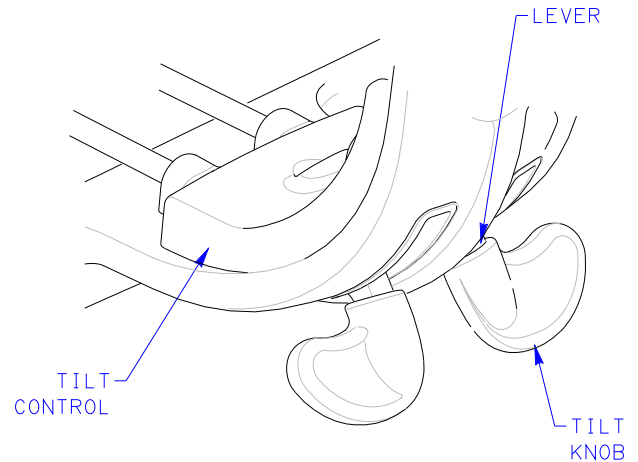

FIGURE 1
1. USING PLIERS, TWIST OFF APPROPRIATE TILT KNOB(S) FROM LEVER(S) OF TILT CONTROL. SEE FIGURE 1.